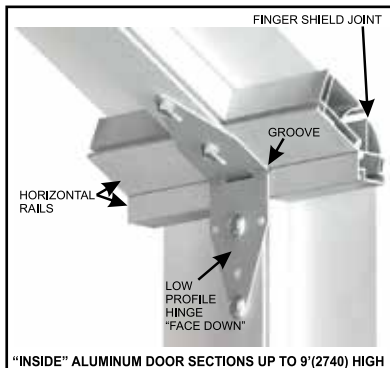

FIGURE 1
2. For doors up to 9'(2740) high, fasten all low profile hinges "face down" into the grooves provided in the horizontal rails with 1/4" x 3/4" thread forming screws. Fasten to stiles and rails using the pre-drilled 1/8"(3) holes. See FIGURES 1 and 2. For doors over 9'(2740) high, fasten all low profile hinges regular "face up".